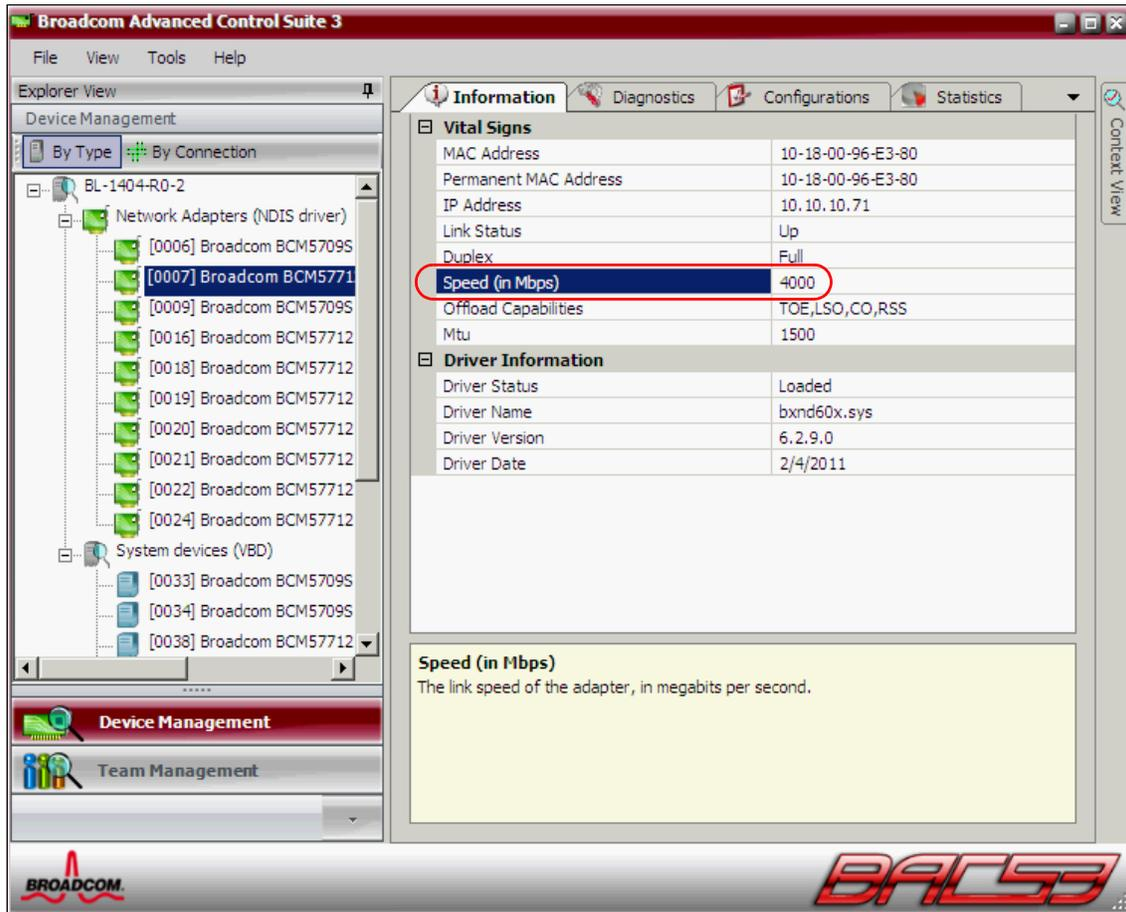

Figure 9-24 NIC partition 1 in Broadcom Advanced Control Suite
Figure 9-24 shows an example from Broadcom Advanced Control Suite. The left pane shows eight NIC partitions. NIC partition 1 on physical port 0 highlighted. The speed is 4 Gbps, which indicates a bandwidth parameter value of 40 in the UEFI utility.
2. In the main Broadcom Advanced Control Suite window (Figure 9-24 on page 222), in the lower-left corner, click **Team Management** to start the Broadcom Teaming Wizard.